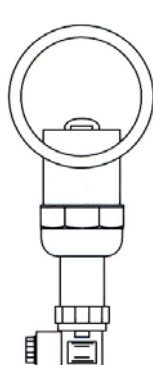

FIG. 1
- Fig. 1: installation with no sediment present